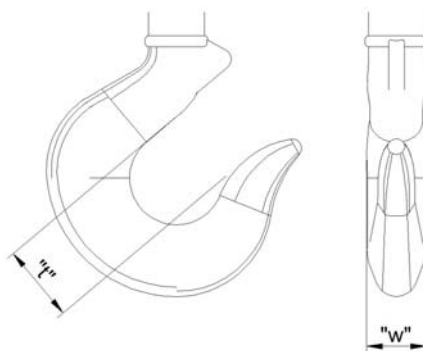

Figure 79 – Hook Throat Admittance
- Check the hook throat admittance (see Figure 79). Replace the complete bottom block where "t" max. has been exceeded.